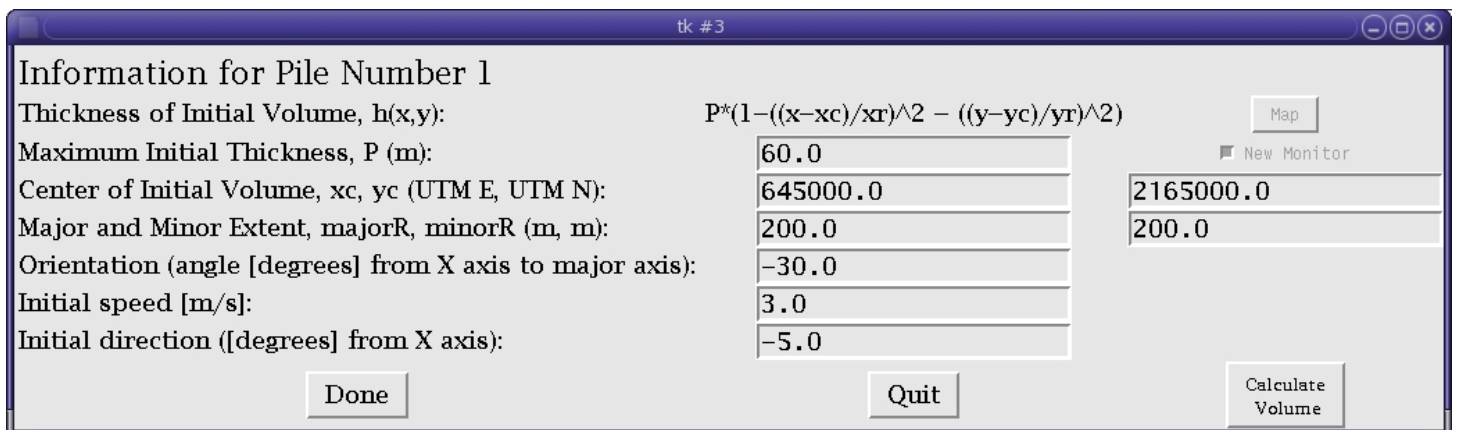

Figure 3.6: Pop-up window for entering initial pile conditions
- Figure 3.6 shows the pop-up window used for specifying the pile dimensions and locations. This window appears if a non-zero number of piles was specified in the main data-entry window. The first line in the window states the pile number for which the dimensions are being entered. In order for the user to specify an initial pile geometry that can vary, the pile has a defined shape of a paraboloid given by the equation  $P * (1 - ((x - xc)/xr)^2 - ((y - yc)/yr)^2)$  (assuming an orientation angle of zero). The data to be entered by the user are: **Maximum Initial Thickness, P** (in meters), **Center of Initial Volume,xc,yc** (in UTM coordinates), the **Major and Minor Extent, majorR, minorR** of the initial pile (in meters), the **Orientation (angle [degrees] from X axis to major axis)**, and its **Initial speed [m/s]** and **Initial direction ([degrees] from X axis)**. Both angles are measured counterclockwise from the x-axis. The angle needs to be entered if you desire a non-zero value.
If two or more piles are being used and they overlap, the larger of the two pile heights will be taken as the pile height at the grid point. There are three buttons on the bottom of this window. When the **Done** button is selected, the pile parameters are entered into the GUI. The **Quit** button will close the pile dimensions window. If more than one pile needs to be specified, a new pile dimension window will appear when the *Quit* button is selected. Once the parameters for all the piles have been specified, then the data will be submitted. The **Calculate Volume** button (figure 3.6) will calculate the volume for the individual piles using the pile height and the X and Y extents. The volume is given in cubic meters and assumes there are no overlapping piles.
the **Run** button. After entering the friction angle data you will be presented with a pile information pop-up window (fig 3.6).